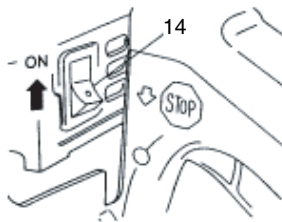
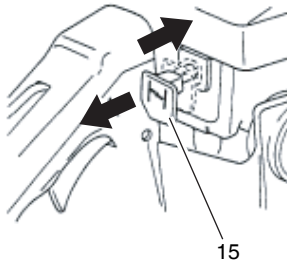

Fig. 9
Fig. 10
Starting (Fig. 9, 10)
1. Set ignition switch (14) to ON position. (Fig. 9)
2. Pull the choke lever (15) down to choked position (Fig. 10). This will automatically lock the throttle in starting position. (Fig. 9)
3. Pull recoil starter briskly, taking care to keep the handle in your grasp and not allowing it to snap back. (Fig. 9)
4. When you hear first ignition, return the choke to run position. (Fig. 10)